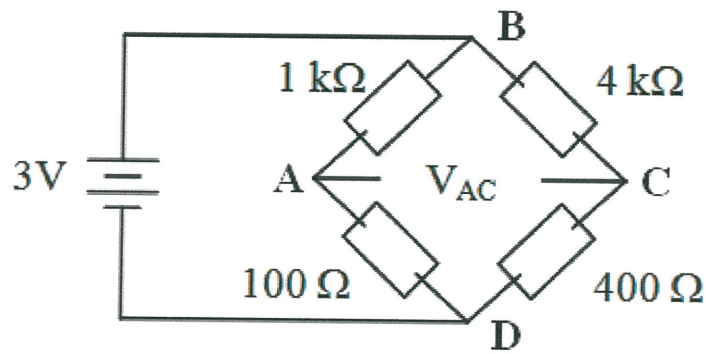

FIGURE Q3(a)
- Q3** (a) For a Wheatstone Bridge as in **Figure Q3(a)**, $R_1 = 1000 \Omega$, $R_2 = 4000 \Omega$, $R_3 = 100\Omega$ and $R_4 = 400 \Omega$ when the bridge is balanced. Internal resistance of the galvanometer is 100Ω with its measuring sensitivity is $100 \text{ mm}/\mu\text{A}$.